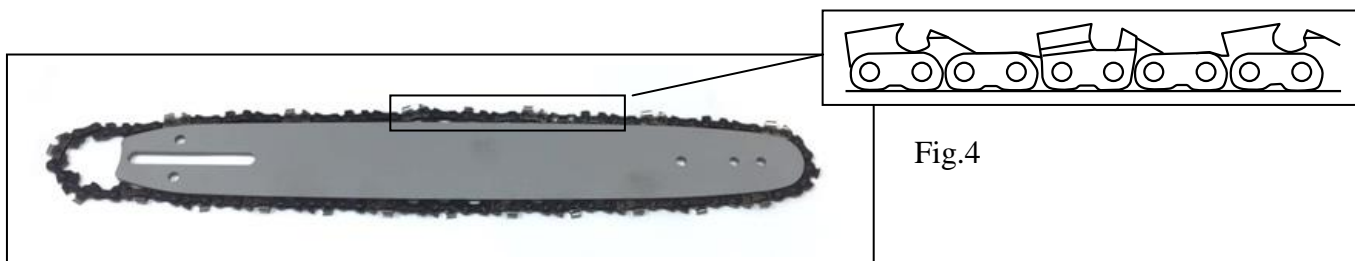

Fig.4
5. Place the chain on the bar (Fig.4) considering the running direction of the chain. The cutting teeth on the upper side of the bar must point in the forward direction (Fig.4).